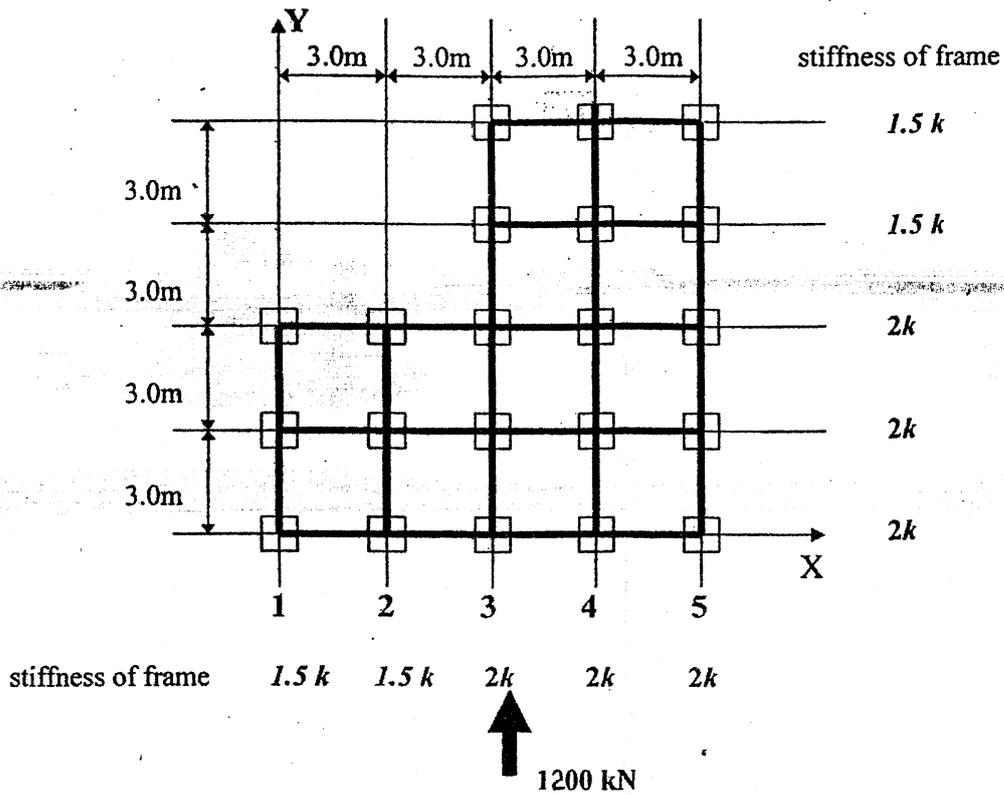

Figure 4: Plan of the building
b) The figure given below (figure 4) shows the plan of an one-storey building which could be considered as composed of 2-D frames along the orthogonal directions. The roof diaphragm is rigid in its own plane, and the mass of the roof is uniformly distributed. The building is subjected to a lateral load of 1200 KN, due to earthquake, in y-direction and passing through the center of mass of the building. Calculate the lateral forces in the 2-D frames along X as well as Y directions. [14]